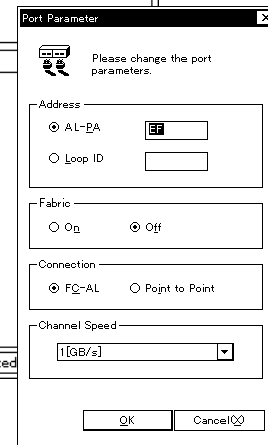

Figure 7.2
- ③ Since the Port Parameter window (Figure 7.2) is displayed, set each item and select (CL) the [OK] button.
- ④ You can change information on the port that has been selected from the upper right list.